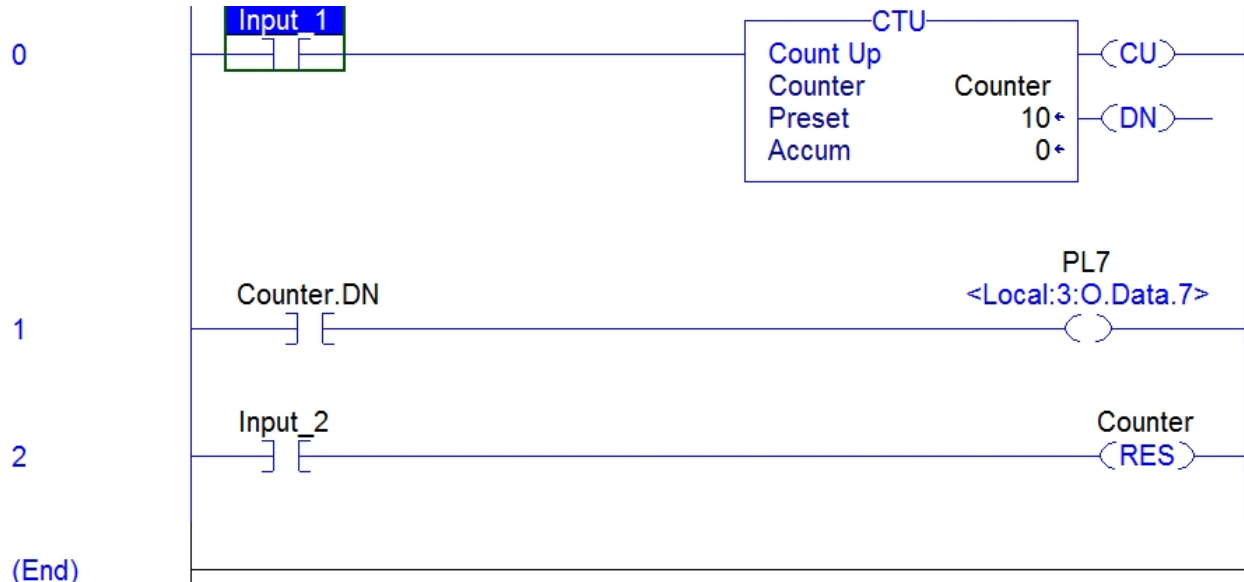

Figure 2-A. The ladder program for this HOA.
2. Program Ladder Logic as shown in Figure 2-A